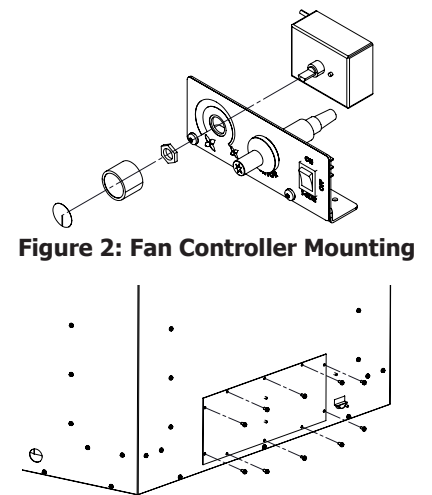

Figure 2: Fan Controller Mounting
3. Install the fan controller into the control panel as shown in Figure 2. Use the retainer nut to secure the controller. Note: nut bites into controller shaft without threads.